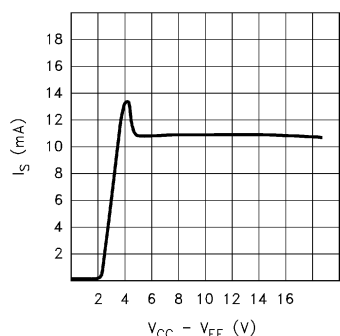

FIGURE 1.  $I_S$  vs SUPPLY VOLTAGE
**H2** The second harmonic arises from the input stage, and the lower the applied differential signal amplitude, the lower the magnitude of the second harmonic. For practical considerations of required output signal and input noise levels, the user will end up choosing a circuit gain. Referring to Figure 1, it is best if the voltage at the negative feedback node tracks the  $V_{REF}$  node, and the voltage at the positive feedback node tracks the  $V_{IN}$  node respectively. This would theoretically require that  $R1 + R2 = R3$ , although the lowest distortion is found at about  $R3 = R1 + (0.7 \cdot R2)$ . With this arrangement, the second harmonic should be suppressed well below the value of the third harmonic.